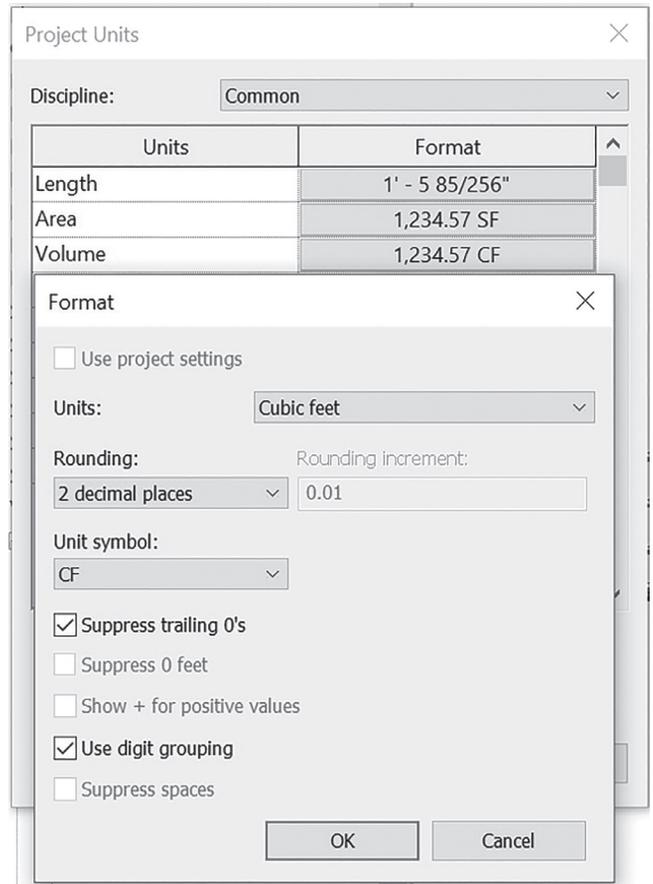

Figure 5: Image illustrating proper “Volume” units
1. Click the button under the “Format” heading for “Volume” and set up as follows. See figure 5.